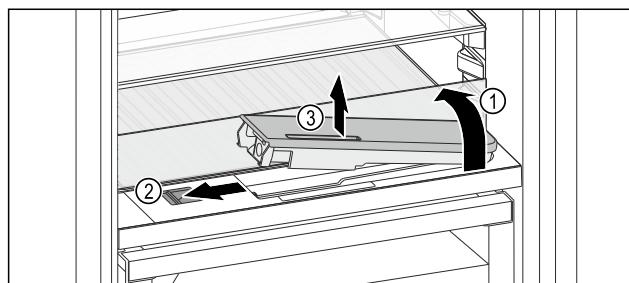

Fig. 129
- Lift the glass panel and fold towards the rear until it clicks into place Fig. 129 (1).
- Slide the slider Fig. 129 (2) to the left.
- Remove the water tank Fig. 129 (3).